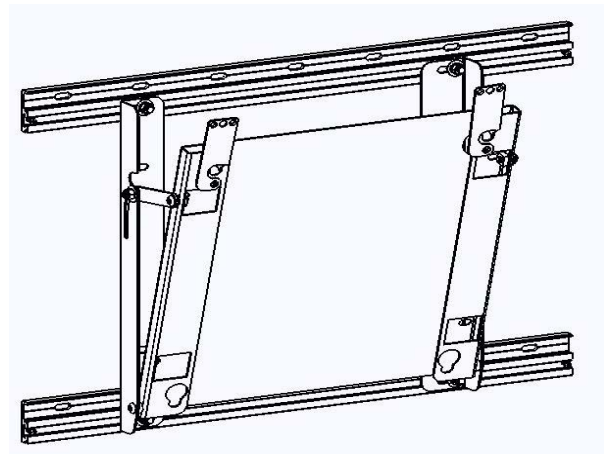

Figure 2. Secure Mount
4. Connect lateral extrusions to the plasma wall mount by inserting the T-slot studs into holes and secure using four flat washers, four lock washers and four hex nuts (Figure 2).